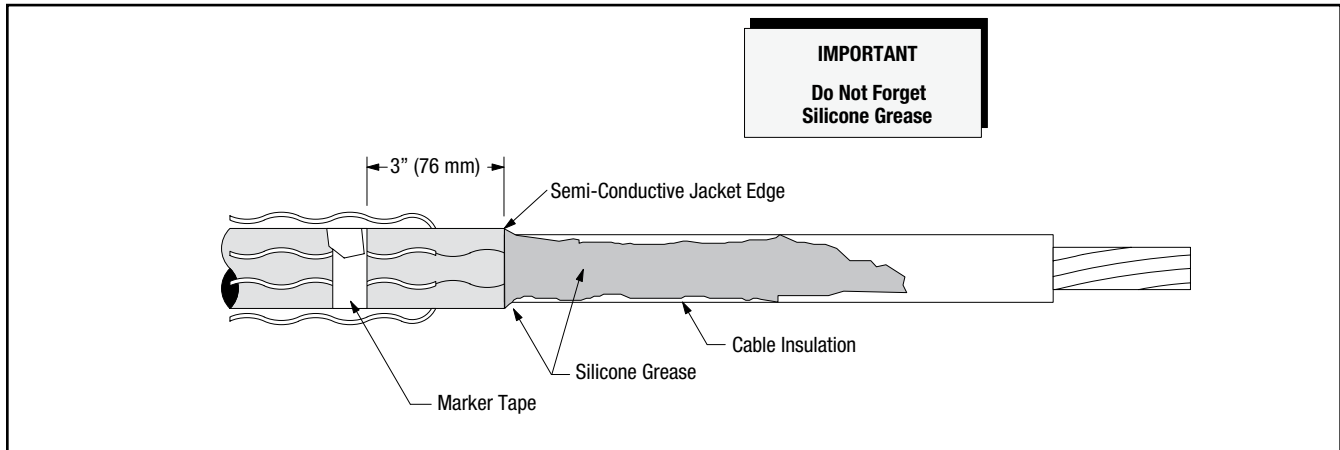

Figure 19
15.1 Place a marker tape 3" (76 mm) back from semi-conductive jacket step using vinyl tape (*Figure 19*).
15.2 Apply a liberal coating of silicone grease over the semi-conductive jacket step (*Figure 19*).